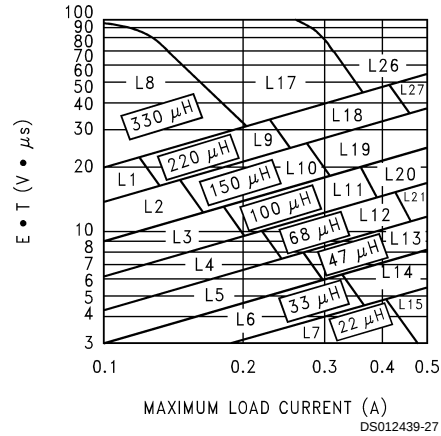

FIGURE 7. LM2594/LM2594HV-ADJ
B. Use the $E \cdot T$ value from the previous formula and match it with the $E \cdot T$ number on the vertical axis of the Inductor Value Selection Guide shown in *Figure 7*.
D. From the inductor value selection guide shown in *Figure 7*, the inductance region intersected by the 35 ($V \cdot \mu s$) horizontal line and the 0.5A vertical line is 150 μH , and the inductor code is L19.